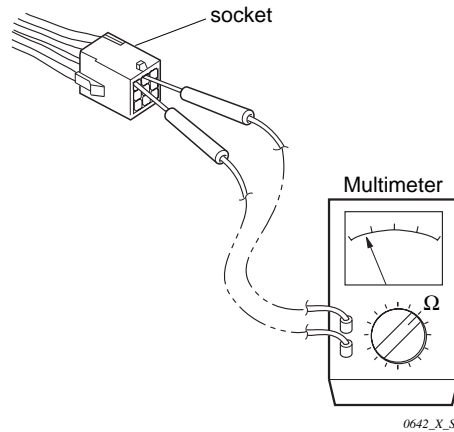

Fig. 44
(2) Checking the Protective Devices
- Then check continuity among plug's (and/or socket's) terminal as in **Fig. 44**.